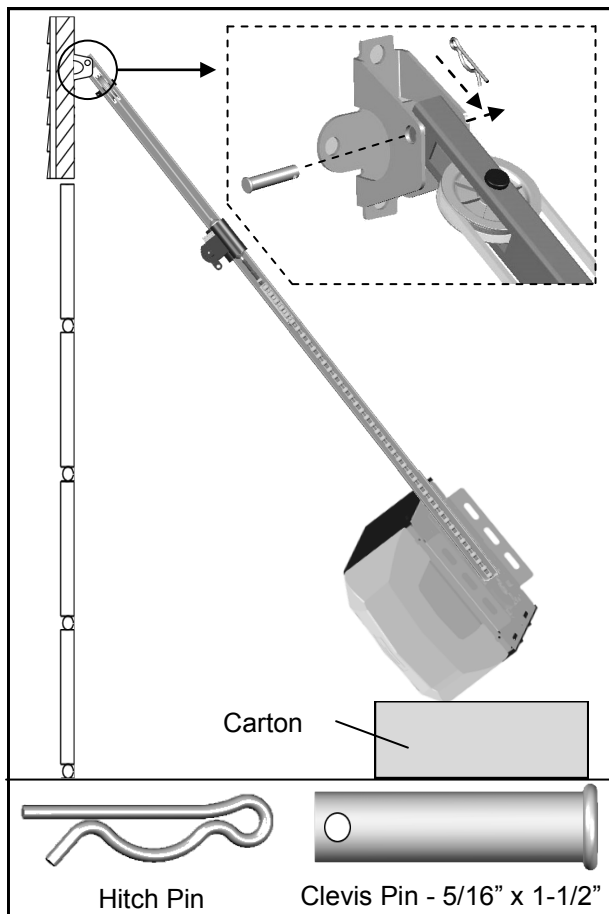

Fig.1
1. As shown in Fig.1, use the packaging carton as temporary support for the opener. Place the opener on carton to prevent damage.